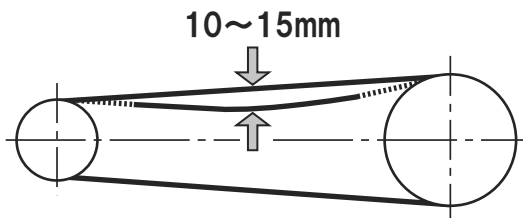

Fig.23
2. Checking the V-belt (fig.23)